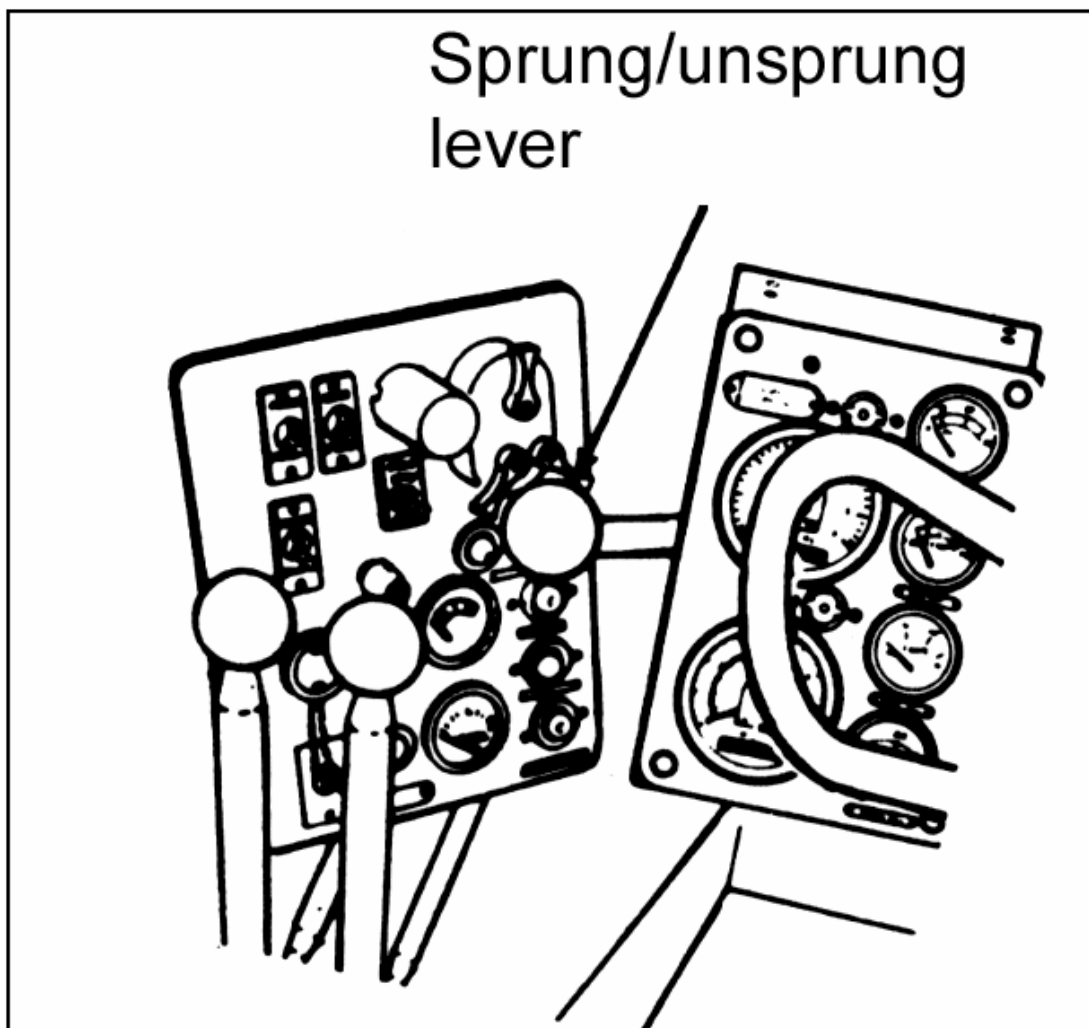

Figure 052-227-1111-1
3. Place the suspension control lever in the SPRUNG position (Figure 052-227-1111-1).